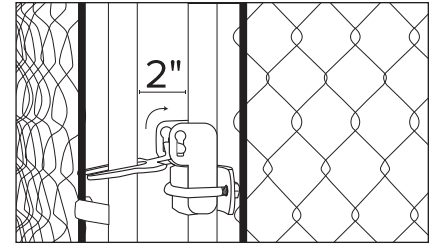

FIG. 13
1. Attach gate latch (**L**) to the latch side of the gate frame at the desired height. Tighten bolts until latch is securely attached to frame. Slide the gate into position, leaving approximately 2" between the door and the corner post. Make sure to space the gate latch and frame correctly so that the latch has a snug fit, but can also be opened and closed smoothly. (**FIG. 13**).